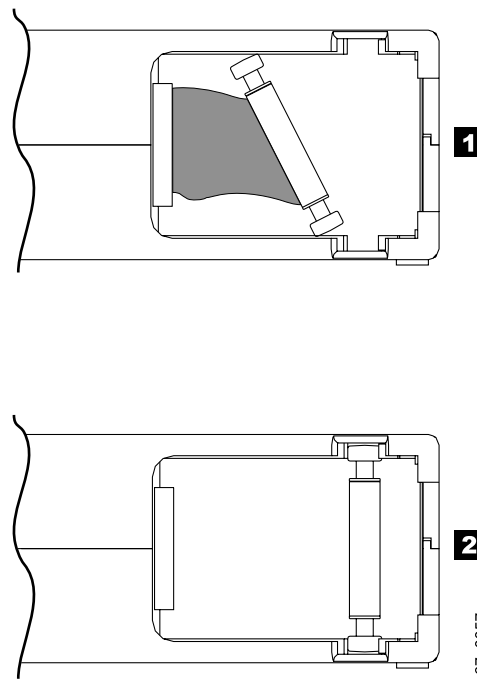

Figure 382. Leader pin in the incorrect and correct positions. The cartridge door is open and the leader pin is visible inside the cartridge.
- Do not drop the cartridge. If the cartridge drops, slide the cartridge door back and ensure that the leader pin is properly seated in the pin-retaining spring clips (see **2** in Figure 382 on page 257). If the leader pin has become dislodged, go to “Repositioning or Reattaching a Leader Pin” on page 257.
A leader pin that is improperly seated inside a cartridge can interfere with the operation of the drive. Figure 382 shows a leader pin in the incorrect **1** and correct **2** positions.